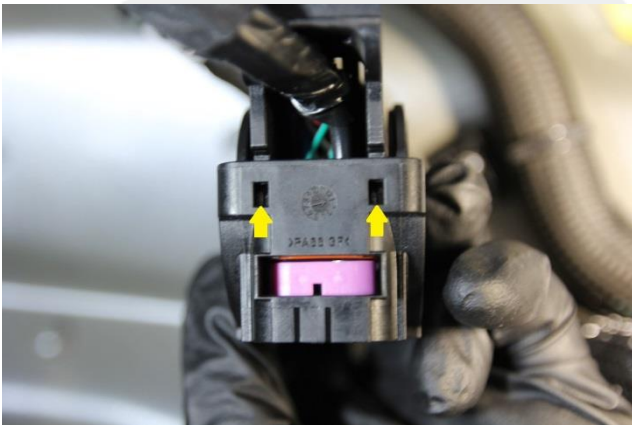
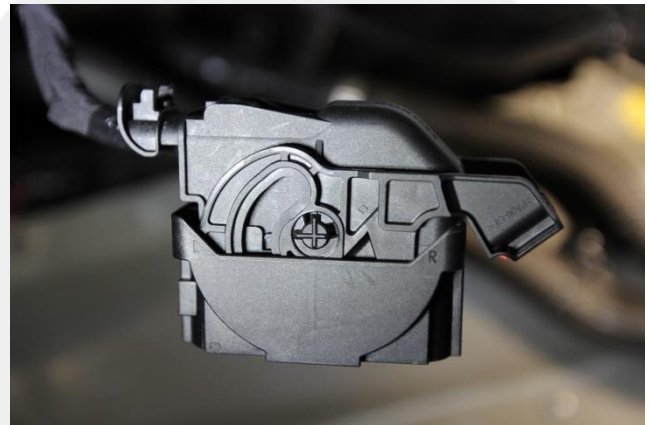
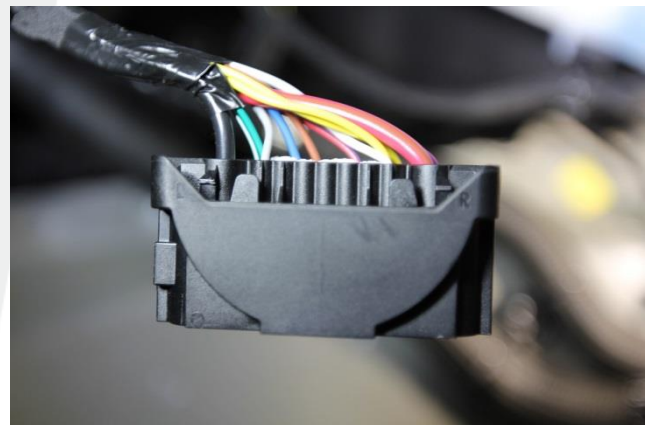

Figure 20
Figure 21
Figure 23
3. Release the locking tabs (x2) by disengaging through the opening at the base of the connector X117 (Figure 20), tilt the cover (Figures 21 and 22), and then remove the cover backing from connector X117 (Figure 23).
20. Install the cover backing onto X117 (Figures 20 – 23) and verify that the cover backing is fully secured onto the connector housing.